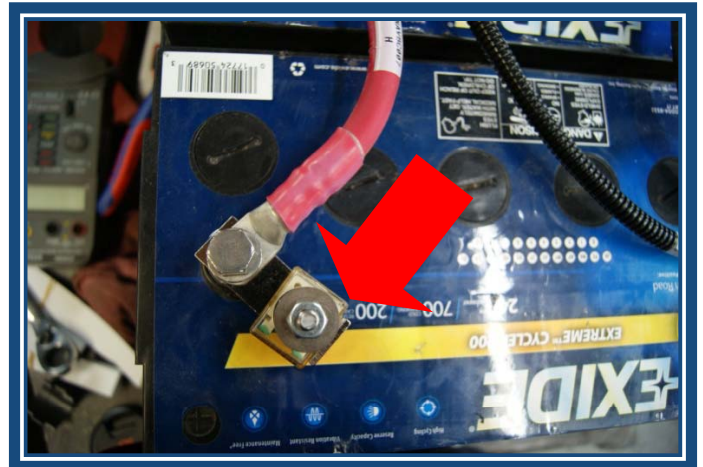

Figure 11
**Step 11:** Install the fuse cube assembly to the positive post of battery A in the liftgate battery box. (See Figure 11)